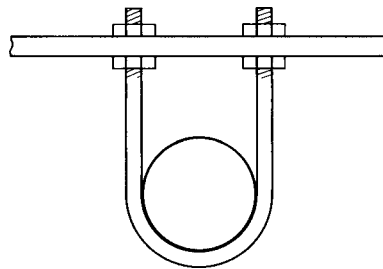

FIGURE P3.7-6
- 3.7-6** A pipe is supported at 12-foot intervals by a bent, threaded rod, as shown in Figure P3.7-6. If an 8-inch-diameter standard weight steel pipe full of water is used, what size A36 steel rod is required?